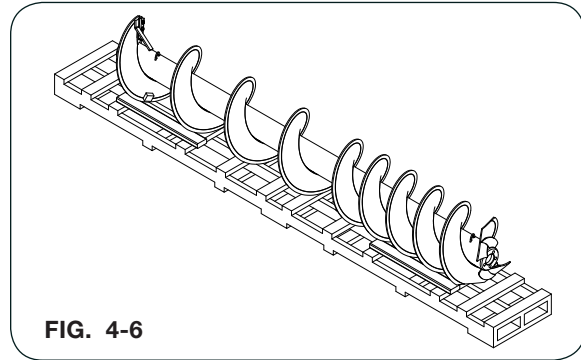

FIG. 4-6
4. The replacement auger is factory balanced. Remove entire auger from shipping crate and secure from rolling. The lower auger assembly is pictured in FIG. 4-6 for reference.